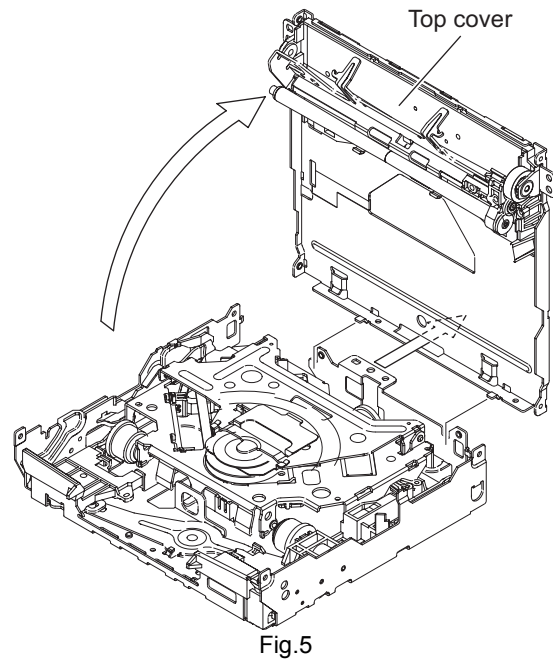

Fig.5
- (3) Take out the top cover in an upward direction. (See Fig.5.)